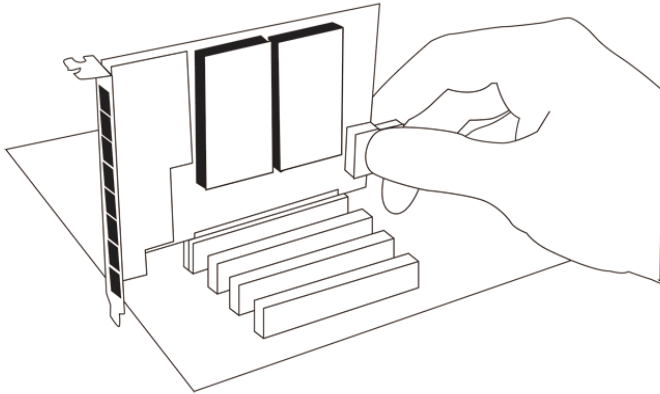

Figure 6: Connect Power for FXS Modules
4. If your card has any FXS modules, you will also need to connect the power cable from your computer's power supply to the back of the card. Insert a four-pin 12 volt connector (disk drive power supply cable, e.g. hard drive) into the white plastic connector on the rear of the card. See Figure 6.